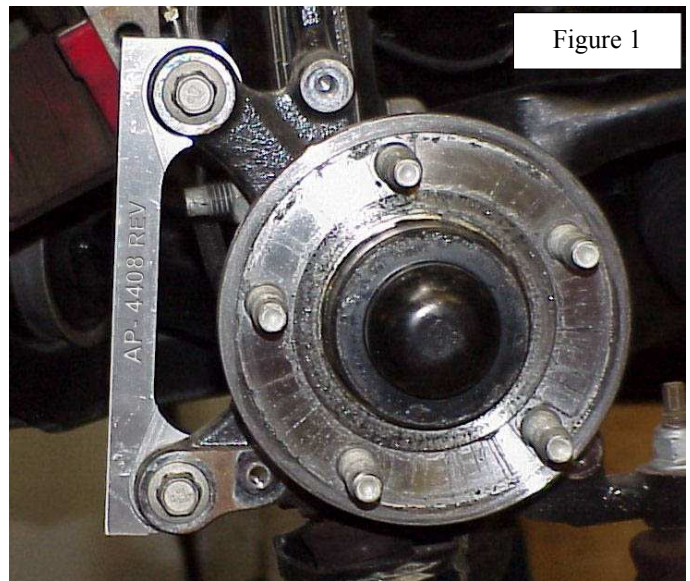

Figure 1
6. Install the caliper bracket ("L" pointing to the outboard side) to the inboard side of the spindle using the caliper mounting holes with the OEM M12 bolts. Torque to **55 ft-lbs**. See (fig.1)